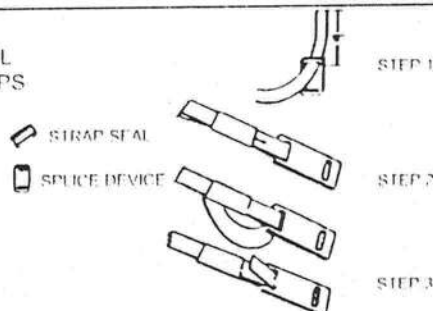

FIG. 5-12
- 4) The A-B chance strap seal device depicted by Fig. 5-12 may be used as directed for attaching the required doublewide centerline straps to ground anchors.
SKYLINE CHANCE STRAP SEAL DEVICE DEPICTED BY FIG. 5-12 MAY BE USED AS DIRECTED FOR ATTACHING THE REQUIRED DOUBLEWIDE SKYLINE STRAPS TO GROUND ANCHORS.
6. For double-wide homes see Fig. 5-12 for the splice connection at the centerline.